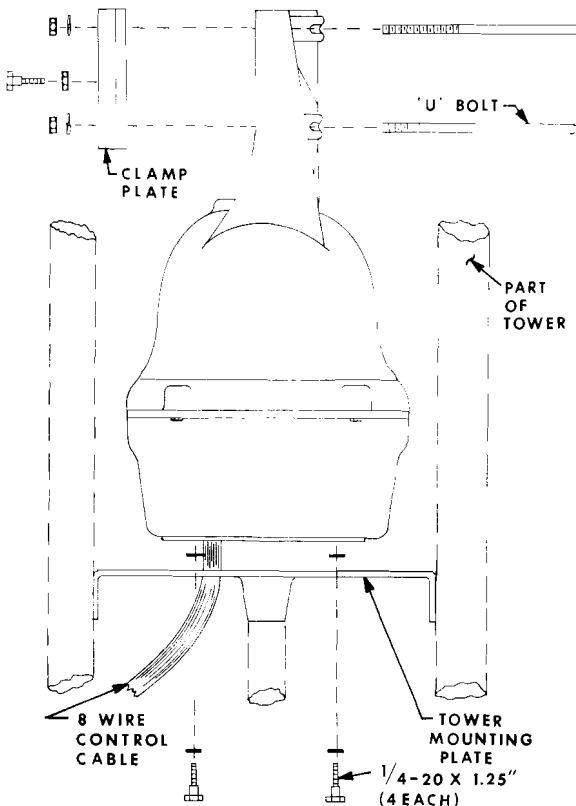

FIG. 6
3. The rotator is attached to the tower plate by means of 4 bolts and lockwashers (see figure 6). The flat tower plate must be drilled in four places using the template provided with this manual unless the tower plate is already properly drilled.
5. Trial assemble the mast to the top of the rotator using the U-bolts, nuts, and lock washers through the rotator and clamp plate as shown in Figure 6. The maximum mast diameter that may be used is 2 1/16" O.D. We recommend 1 1/2" nominal **STEEL PIPE** with 1.9" O.D. in standard wall thickness of .145" For stacked arrays or very large beams, we recommend extra heavy duty wall thickness .200". Both steel pipes can be purchased to specification ASTM-120.